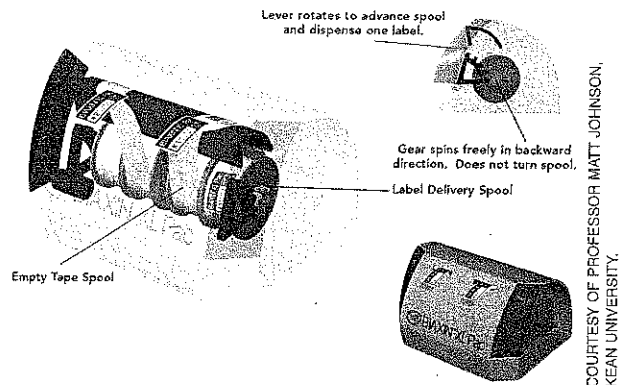

Figure 5-69: Sectional drawing.
- ▶ **Sectional views** show an internal slice of the object, much like a CAT scan image (see Figure 5-69).